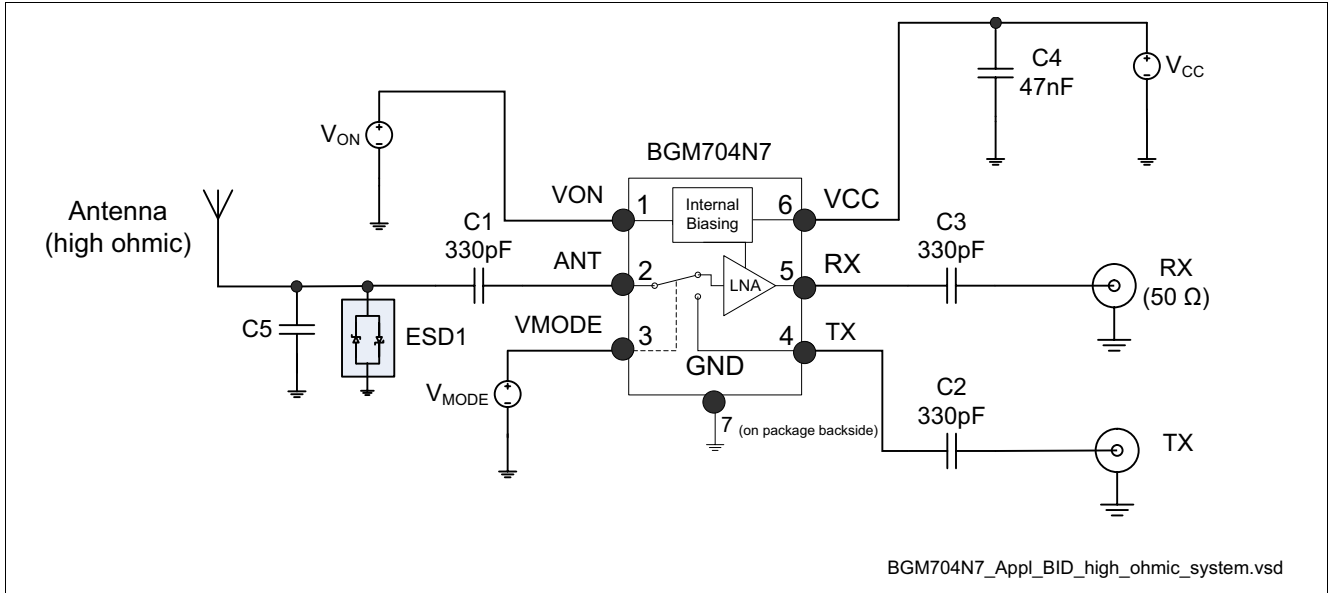

Figure 3 Application Circuit with Chip Outline High Ohmic (Top View)
1) Performance based on application circuit in Figure 3 on Page 25